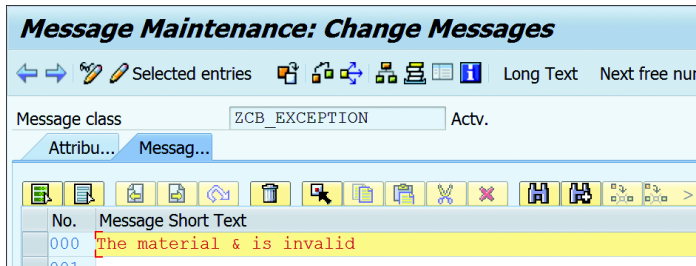

Figure 9.29 Using Placeholder in Message Maintained in Message Class
5. For the attribute value to be shown in the message, the message in the message class should use & as a placeholder, as shown in Figure 9.29. When the message is called, the placeholder will be replaced with the actual value.